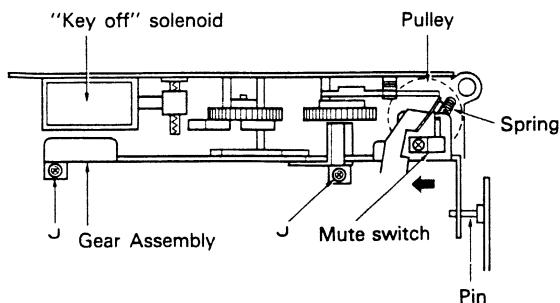

Fig. 10
1. Remove the pulley which is beneath the chassis (Figure 10). Remove the two screws (labeled "J") retaining the spring and gear assembly and lift that assembly upward. The gear assembly can now be removed from its position by pulling it in the direction indicated by the arrow.